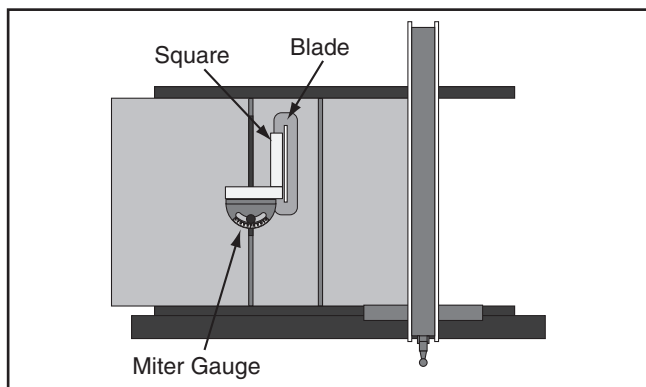

Figure 129. Checking 90° stop on miter gauge.
3. Place square evenly against face of miter gauge and blade, as shown in **Figure 129**.